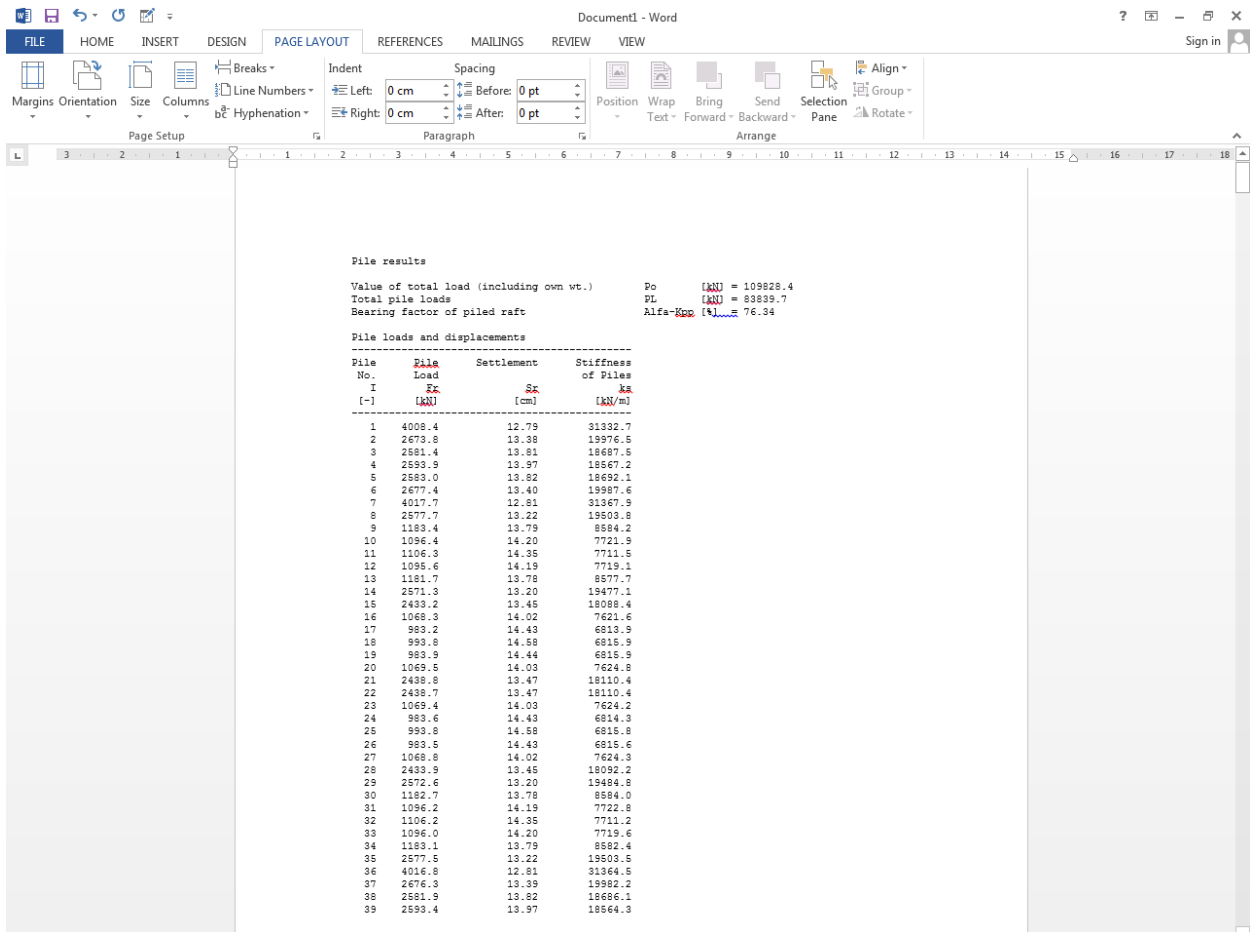

Figure 12.41 Exported results in MS Word
- Choose "Send to Word" from "File" menu if you wish to export the text to the MS Word application, Figure 12.41